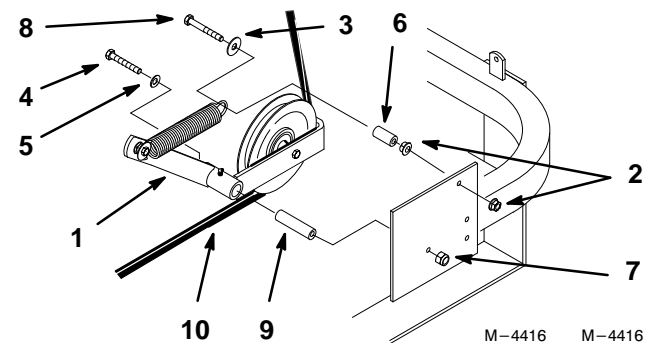

Figure 7
1. Remove the spring from the old idler arm (Old idler arm not shown) (Fig. 7).
2. Remove the old idler arm from the machine frame. Save parts for installing new idler arm (Old idler arm not shown) (Fig. 7).
3. Remove the spring and hardware from the machine frame. Discard old washer (Fig. 7).
3. Install new rear idler arm to machine frame. Use existing hardware to attach it (Fig. 7).
4. Install spring to machine frame. Use existing hardware and new flat washer included in kit. (Fig. 7).
Note: New flat washer must be installed between spring and head of bolt. The spring must be installed between new flat washer and spacer (Fig. 7).